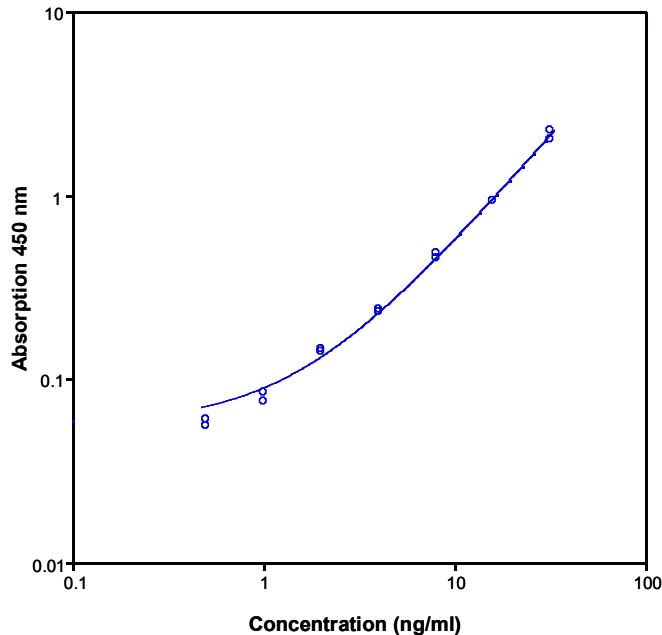

Fig. 8 Representative standard curve for human Bcl-2 ELISA. Human Bcl-2 was diluted in serial 2-fold steps in Sample Diluent.
- A representative standard curve is shown in Figure 8.